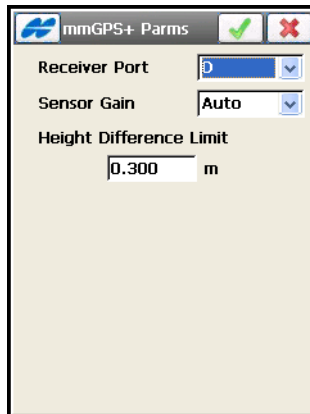

Figure 3-29. mmGPS+ Parameters
- *mmGPS+* – available only in a RTK configuration, check mark this box to enable a mmGPS aided RTK survey. The **Parameters** button opens the *mmGPS+ Parameters* screen to set the rover port and general parameters for the mmGPS+ unit (see Figure 3-29 on page 3-29).
The **mmGPS+ Parameters** screen adds a millimeter GPS+ selection to the RTK survey (Figure 3-29):